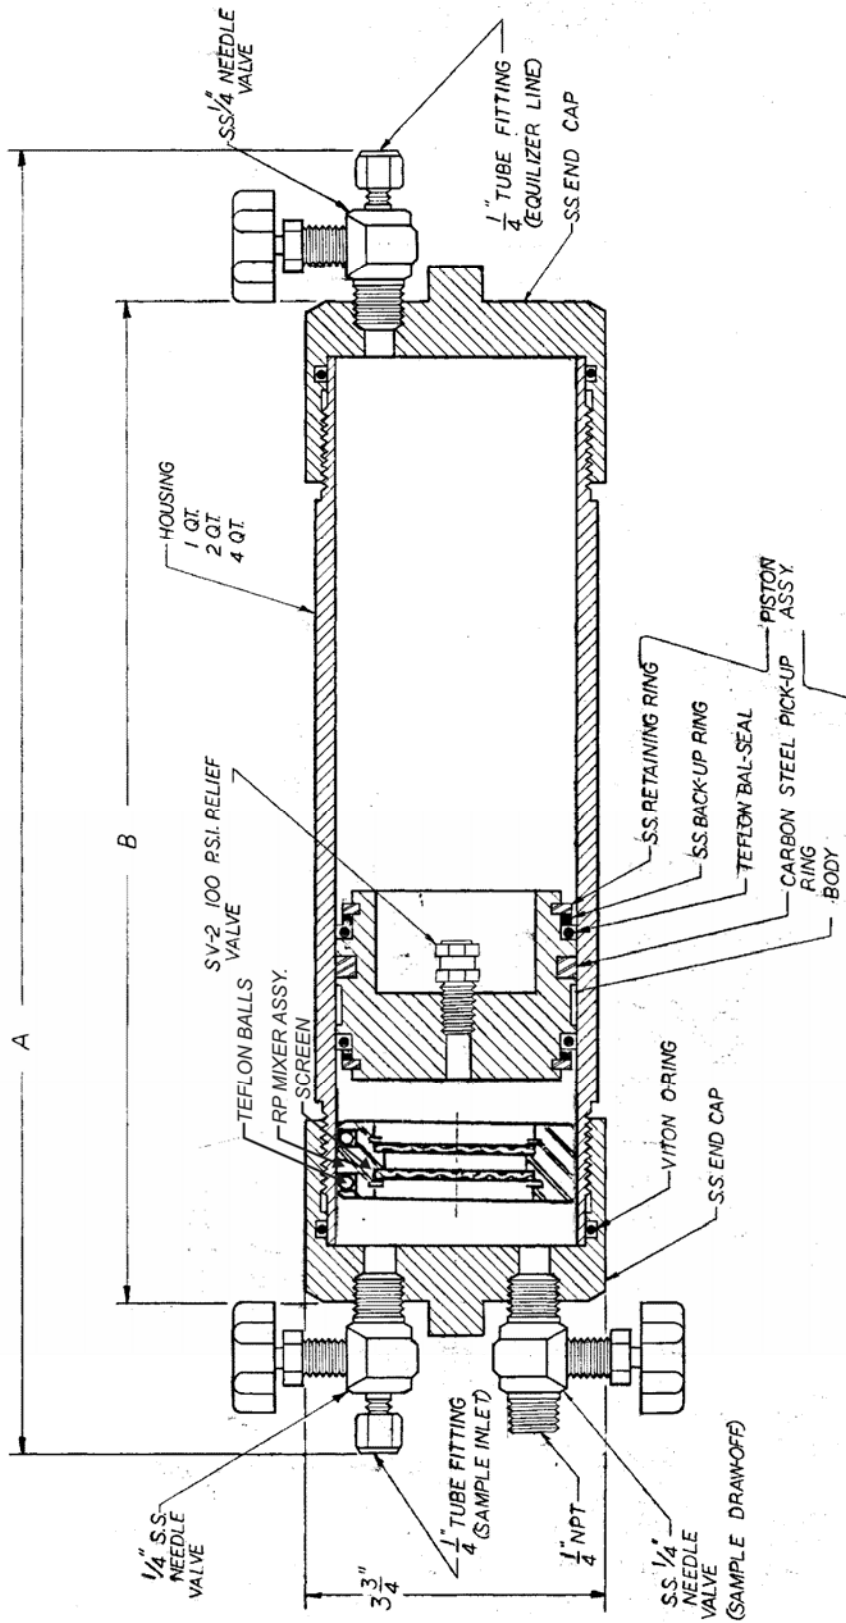

Figure 2—RP stainless steel receptacle
Standard Receptacle Piston (Figure 2)
2. Refer to Figures 2 and 3 for correct orientation of the RP piston.